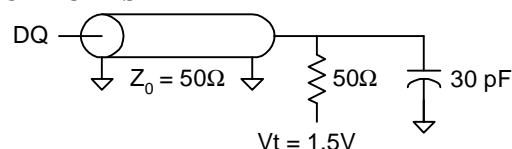

Fig. 1 OUTPUT LOAD EQUIVALENT
| Output load                   | See Figures 1 and 2 |
- Test conditions as specified with the output loading as shown in Fig. 1 unless otherwise noted.
- Capacitance derating applies to capacitance different from the load capacitance shown in Fig. 1.